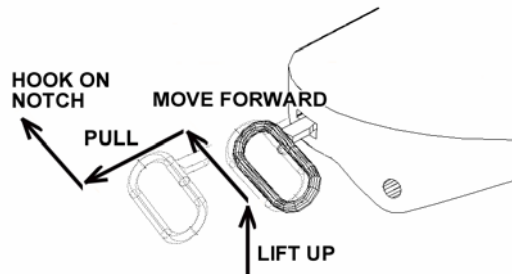

FIGURE 4
1. Unlock the fifth wheel: Lift release handle up into wide slot and move forward while pulling handle out (see figure 4). Lock handle in open position using notch provided.